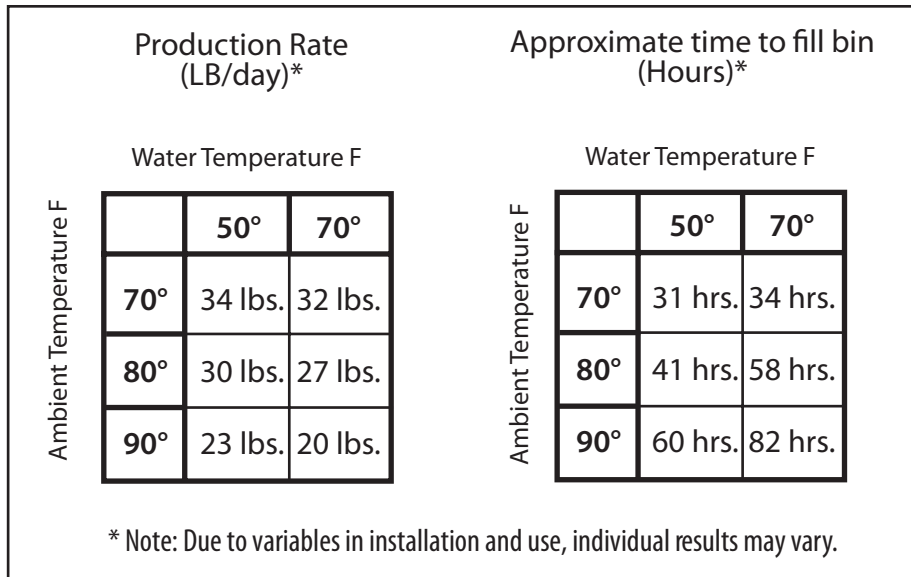

Fig. 10
- Room and water temperatures will greatly affect the output of ice in your unit (see table, Fig. 10). Ice will also melt away, especially at the start of an empty bin, but melting will slow as ice accumulates.